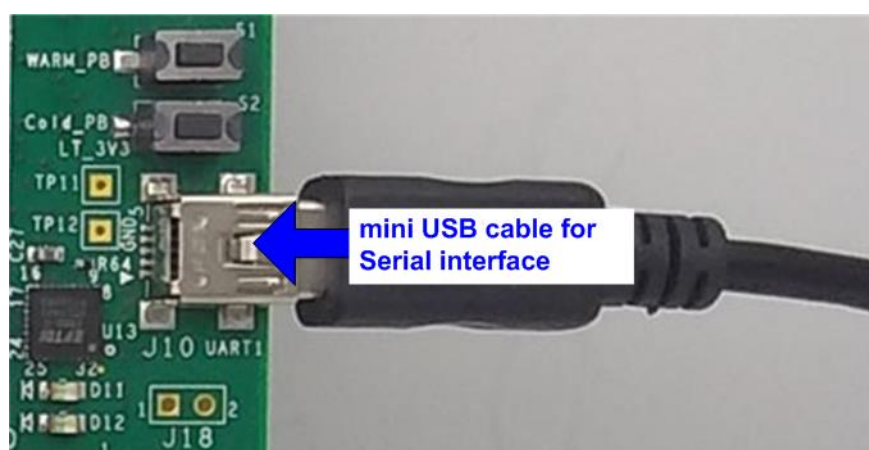

Figure 2-3 USB cable connection
- 4) Connect mini USB cable from FPGA board to PC for Serial console, as shown in Figure 2-3.